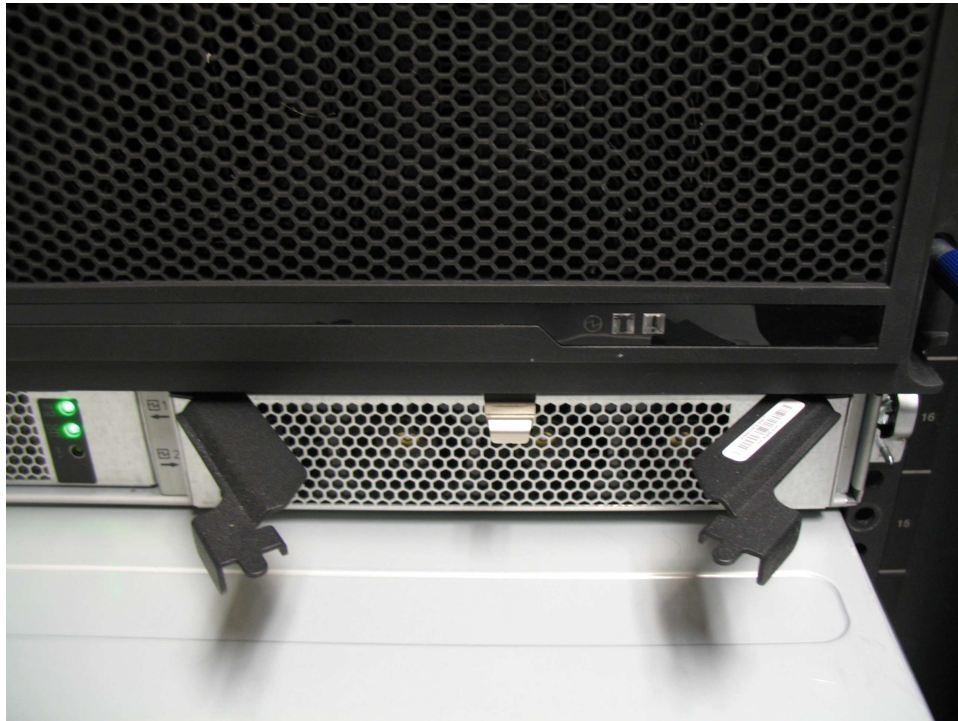

Figure 71. Install the power supply
3. Slide the PSU forward into the chassis until it clicks in to place, as shown in Figure 71 on page 86.